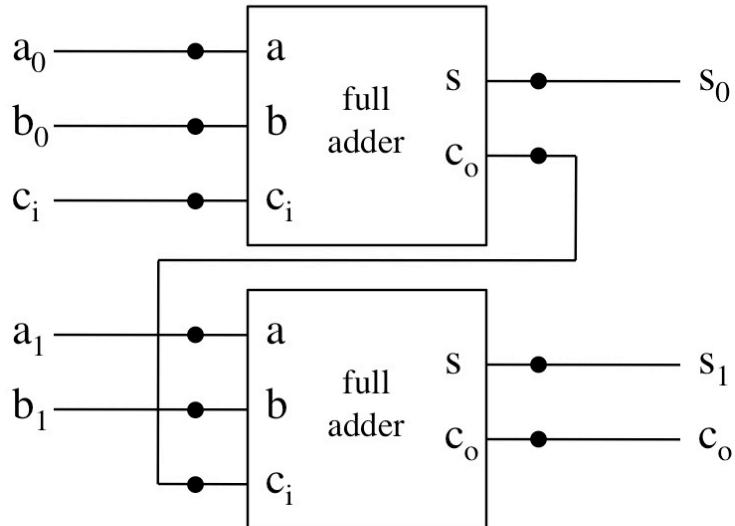

Figure 4.13: 2-bit adder
- 2) A multiple bit adder can be implemented by instantiating the required number of full-adders. Figure 4.13 illustrates the example of a 2-bit adder. Extend this to create a schematic for a 4-bit adder. A design adder_4bit has been provided for you for this exercise.